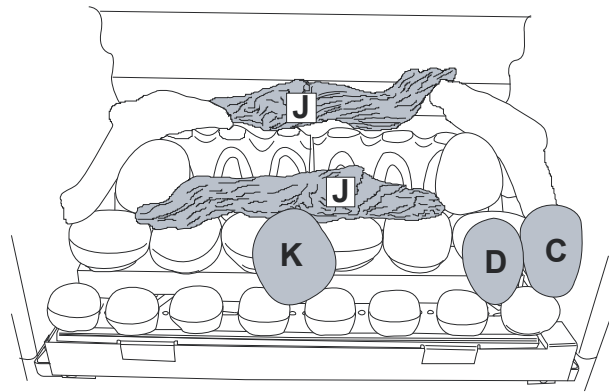

Figure 36
6. Next place the two **J** driftwood pieces and the **K**, **D** and **C** pebbles as in **Figure 36**.